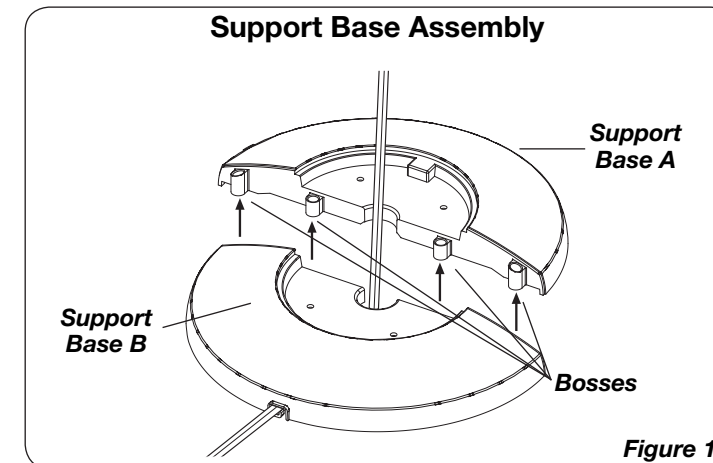

Figure 1
2. Assemble the Support Bases by interlocking the **Bosses** on **Support Base A** into the **Boss Holes** on **Support Base B**. Thread the **Power Supply Cord** through the large hole in the center of the Support Base Assembly. (**Figure 1**)